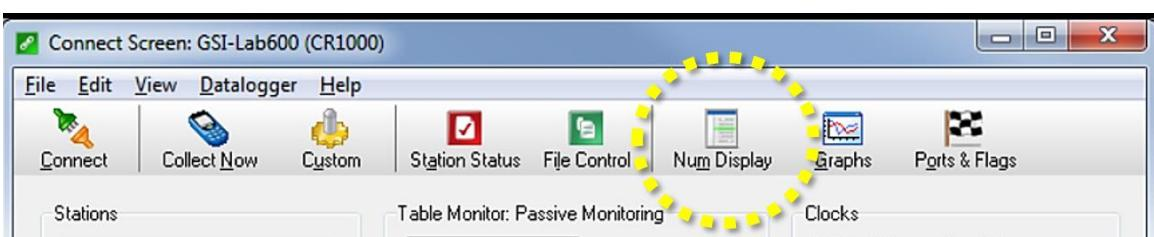

Figure 87. Click “Num Display” Icon
- f. Click “**Num Display**” (see *Figure 87*) to open the Data View.